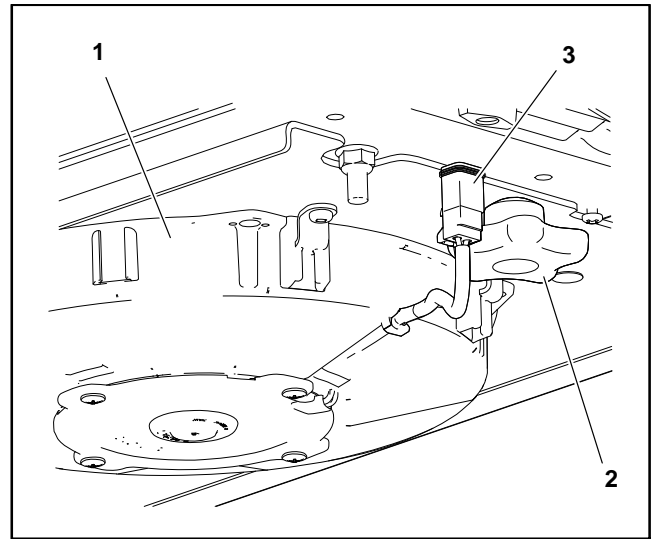

Figure 6
3. Disconnect the two (2) condenser fan plugs from the wire harness connectors attached to the cab frame (Fig. 6).
5. Remove two (2) knobs that secure condenser fan assembly to machine (Fig. 6).